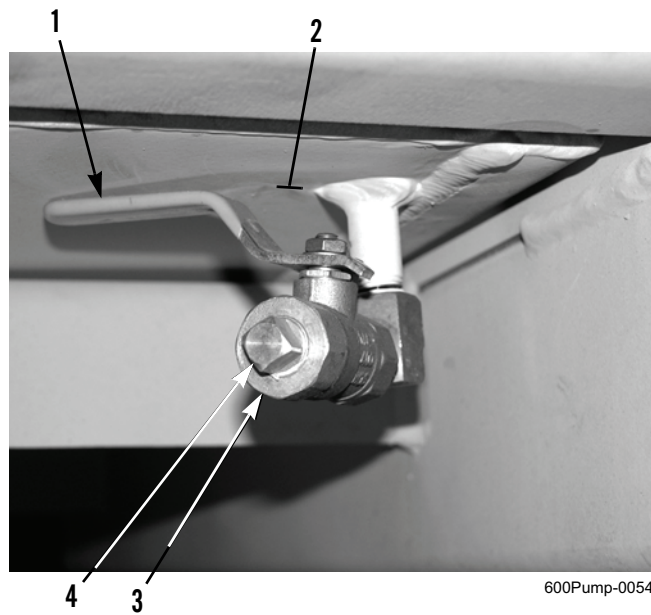
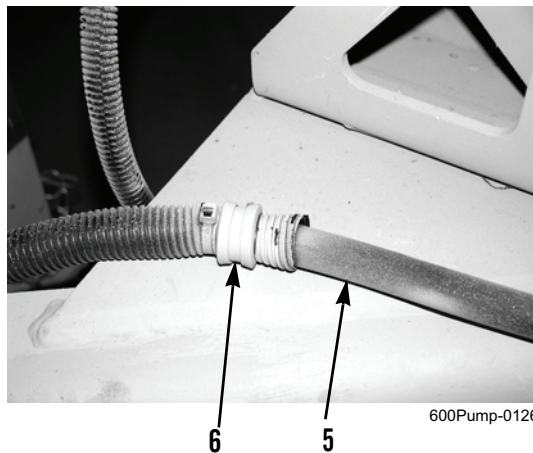

Figure 1. Fuel Tank Drain.
Figure 2. Intervehicular Electrical Cable Clamp.
1. Drain fuel tank (Figure 1, Item 2), as required:
- a. Locate drain valve (Figure 1, Item 3) under left side of fuel tank (Figure 1, Item 2).
- b. Remove plug (Figure 1, Item 4) and turn drain valve handle (Figure 1, Item 1) 1/4 turn counterclockwise (left) until valve handle is on line with drain flow.
- c. After draining fuel tank (Figure 1, Item 2), close drain valve (Figure 1, Item 3) by turning valve handle (Figure 1, Item 1) 1/4 clockwise (right). Wipe plug (Figure 1, Item 4), clean with a rag, apply antiseizing tape to male threads, and install plug in drain valve.
2. Raise fuel tank (Figure 1, Item 2) above level of trailer frame to access intervehicular electrical cable (Figure 2, Item 5). Provide suitable support for fuel tank.
3. Remove all clamps (Figure 2, Item 6) from intervehicular electrical cable (Figure 2, Item 5) along right side of trailer frame.